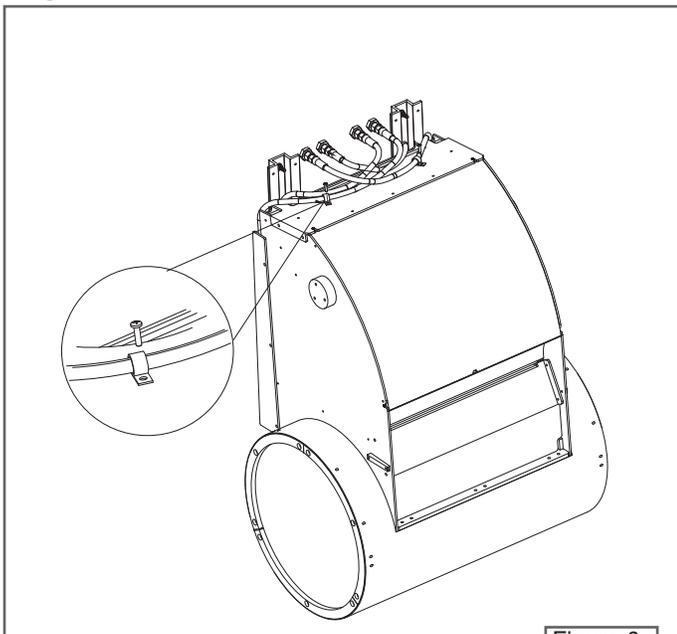

Figure 6.
6. Secure the treadmill hydraulic hoses to the top of the swim machine with the hose clamps that are attached to the top of the swim machine. **Figure 6.**